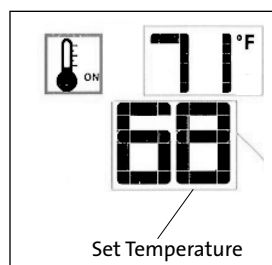

Fig. 15.11. Thermostat ON.
- To activate this function, press the Thermostat Key. The display will indicate that the room thermostat is “ON” and the current Set Temperature is now displayed. Fig. 15.11.